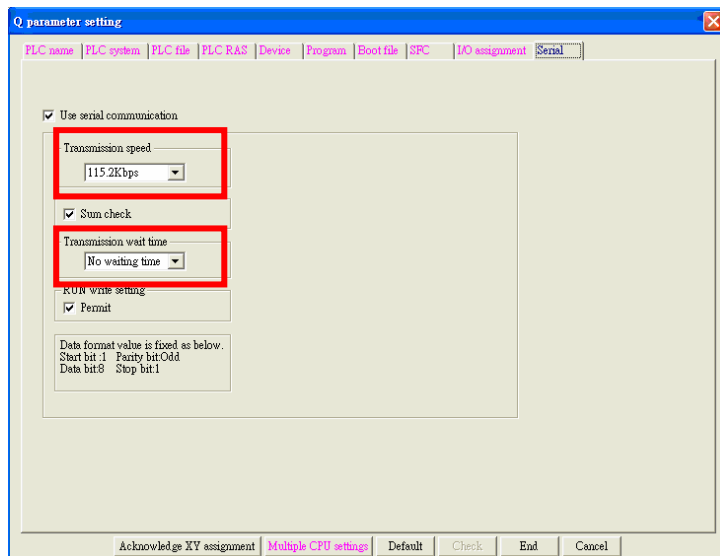

Fig. 2-1-19 Setting Parameters
- Setting of the PLC software serial parameters: configure to use serial communication, select the transmission speed, and set RUN to write mode, as shown in Figure 2-1-19.